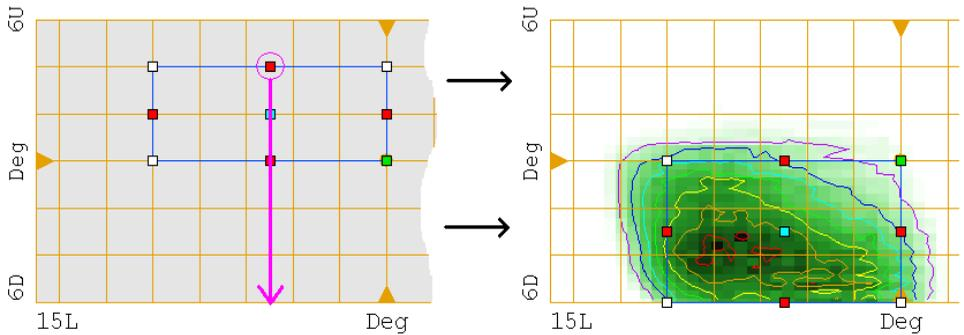

Figure 1.16 Dragging top edge of aim box
- 4 Move the top edge of the aim box to a new location by dragging the corresponding red square, as shown in Figure 1.16.